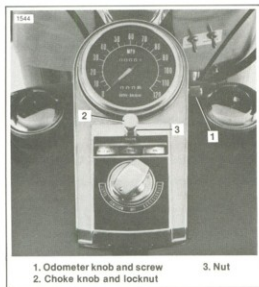

Figure 2-96. Speedometer — FL/FXWG/FXDG/FXST
1. See Figure 2-96. Remove the odometer knob and screw (1).
2. Unscrew the choke knob and locknut (2). Remove the housing nut (3) and pull the housing straight up to remove.